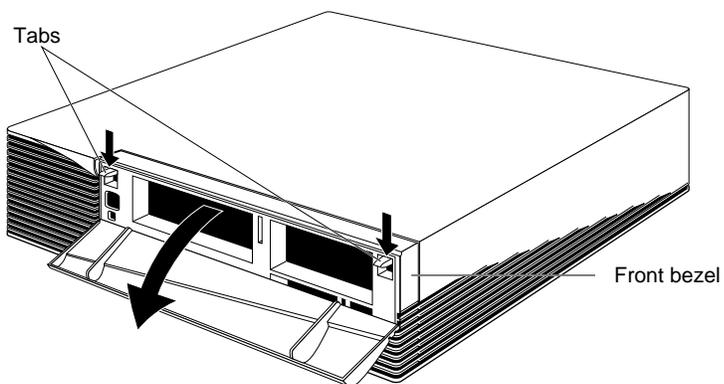

Figure 1 Removing the Front Bezel from the Indigo² Chassis
- Press down on the tabs on each side of the bezel, as shown in Figure 1.